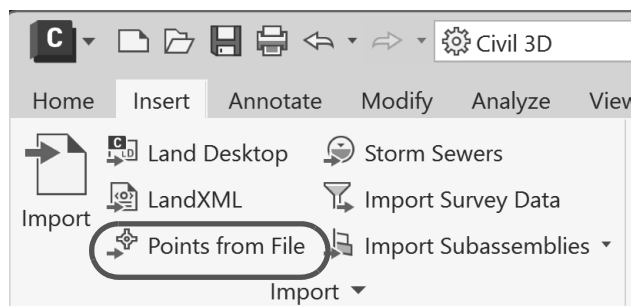

Figure 2–41
2. In the *Insert* tab>*Import* panel, click  (Points from File), as shown in Figure 2–41.
3. In the *Import Points* dialog box, do the following, as shown in Figure 2–42: